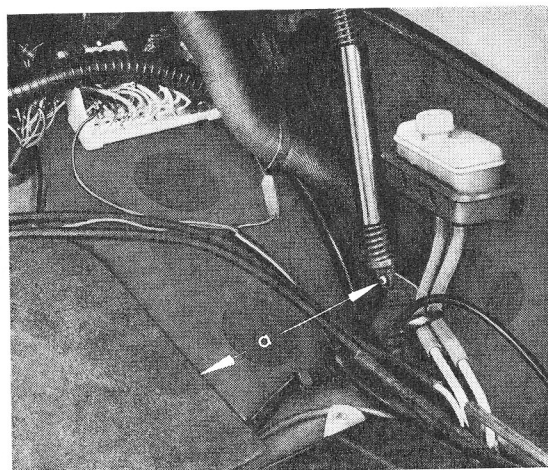

Fig. 1
- 3 – Shorten felt padding 260 mm as shown in Figure 1.
Vehicles built before August 1970 have shorter brake lines which means that they pass by the position selected for the exhaust pipe hole. It is essential to lengthen the brake pipes below the fluid reservoir so that they are far enough away from the exhaust pipe. The routing of the fluid pipes is shown in Figures 1 and 2.